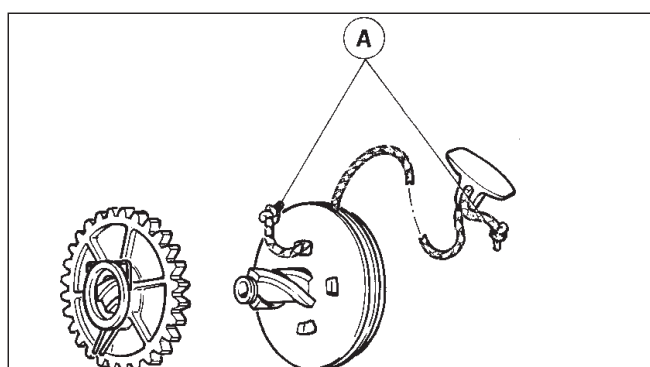

Fig. 13
- Remove brake spring (10) and washer (8) - only early type starters, and separate gear (7) from pulley (6). If necessary, replace rope (12) referring to Fig 13.
- Untie knots A and remove rope from handle (14) and pulley (6).